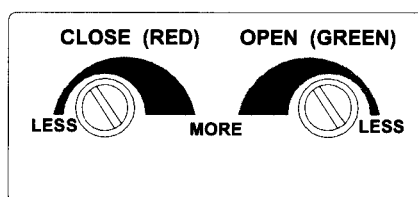

Fig 10
- Locate the 2 Door Travel Adjusting Screws (DTAS) found on the underside of the Power Head. (Fig 10)